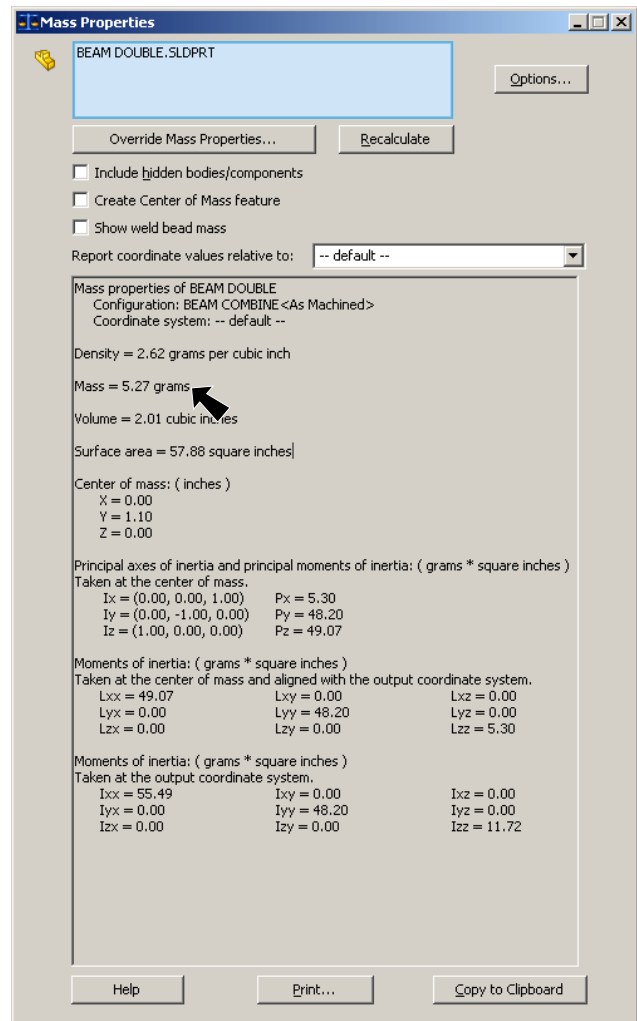

Fig. 9
Step 2. Make note of **Mass in grams** in the Mass Properties dialog box and close dialog , **Fig. 9**.